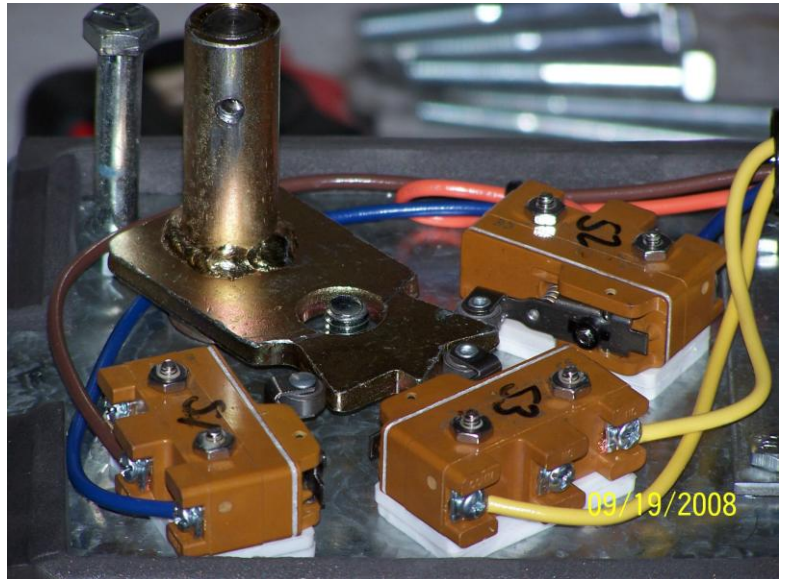

Figure 11
10. Tighten the cable clamp on the tower box. Make sure that the cam is in the center or neutral position (Figure 11). Wire the tower box with the supplied 4 conductor cable and carefully read the wiring diagram to connect to the end tower box.